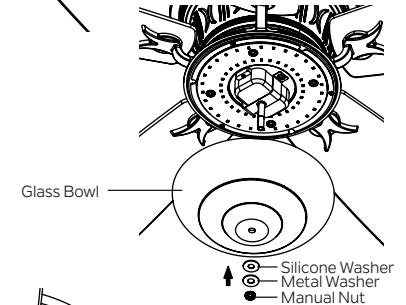

Fig. 24
Step 3. Lift the glass shade up to the light kit, allowing the threaded rod to go through the center hole in the bottom of the glass shade. Place the silicon washer and metal washer over the threaded rod, then screw the manual nut onto the threaded rod until tight. DO NOT OVER-TIGHTEN. (Fig.24)
Step 1. Remove the existing wall plate and the old switch from the wall outlet box. Wire the BLACK leads (hot) together with connector and push back inside the outlet box. (Fig. 24)